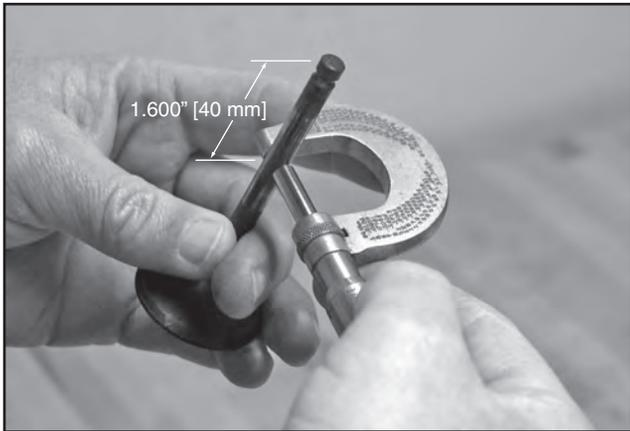

Figure 5-11. Measure Valve Stem Diameter
4. Measure valve stem diameter at specified distance from end of valve, as shown in Figure 5-11.